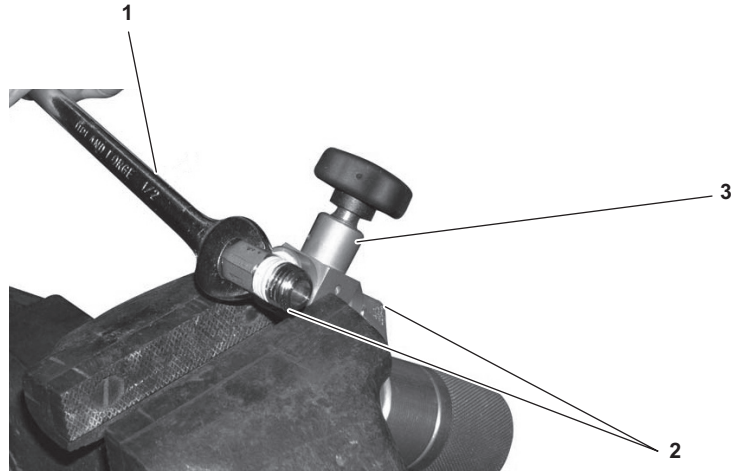

Figure 6-17. Removing Elbow Fittings from P1 Bleed Valve
- (1) Remove the P1 purification chamber from the E-BAC/SS IAW procedures in paragraph 6.4.11.b.
- (2) Remove the CO/H₂O indicator housing and the P1 bleed valve from the P1 purification chamber IAW procedures in paragraph 6.4.9.b.
- (3) Place the P1 bleed valve in a vise, ensuring that it is held securely.
- (4) Use a 1/2 inch wrench (figure 6-17, item 1) to loosen (CCW) and remove the elbow fittings (figure 6-17, item 2) on either side of the P1 bleed valve (figure 6-17, item 3).
- (1) Thoroughly clean the male and female threads of the elbow fittings (figure 6-17, item 2) and the P1 bleed valve (figure 6-17, item 3), removing all previously applied anti-seize (Teflon[®]) tape. Do not allow tape particles to enter the valves.
- (2) Wrap anti-seize (Teflon[®]) tape around the male threads of all connections in a spiral CCW direction, starting at the second or third thread. Encircle the threads three times.
- (3) Place the P1 bleed valve (figure 6-17, item 3) in a vise, ensuring that it is held securely.
- (4) Using a 1/2 inch wrench (figure 6-17, item 1), attach the elbow fitting (figure 6-17, item 2) to P1 bleed valve (figure 6-17, item 3), turning CW until snug.
- (5) Re-position the P1 bleed valve (figure 6-17, item 3) in the vise. Using a 1/2 inch wrench (figure 6-17, item 1), attach the elbow fitting (figure 6-17, item 2) with the CO/H₂O indicator housing attached. Turn the elbow fitting CW until snug.
- (6) Remove the P1 bleed valve (figure 6-17, item 3) from the vise and install it in the P1 purification chamber IAW procedures in paragraph 6.4.9.c.
- (7) Install the P1 purification chamber onto the E-BAC/SS base IAW procedures in paragraph 6.4.11.c.